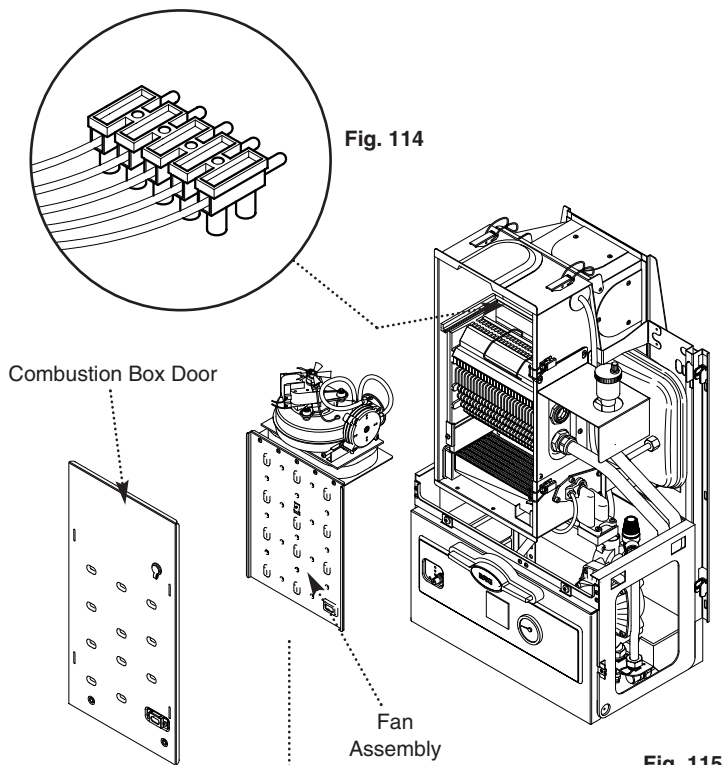

Fig. 115
2. Release the four latches holding the combustion box door. Remove the combustion box door by pulling forward from the bottom and unhooking its top edge (Fig. 115).
3. Disconnect the 5-pin pressure switch and fan plug (Fig. 114). Withdraw the fan assembly by pulling forwards from the top edge (Fig. 115).
5. Fit the new fan and re-assemble all components in reverse order of dismantling ensuring that the flexible tubes from the fan unit to the pressure switch are routed correctly and that they are not kinked or flattened (Fig. 115), reconnect the new fan wires into the connections on the electrical plug - either wire can be connected into either connection.
4. Fit new pressure switch and re-assemble all components ensuring that the flexible tubes from the fan unit to the pressure switch are routed correctly and that they are not kinked or flattened (Fig. 115). Ensure that the electrical terminals are connected to their correspondingly marked tags.